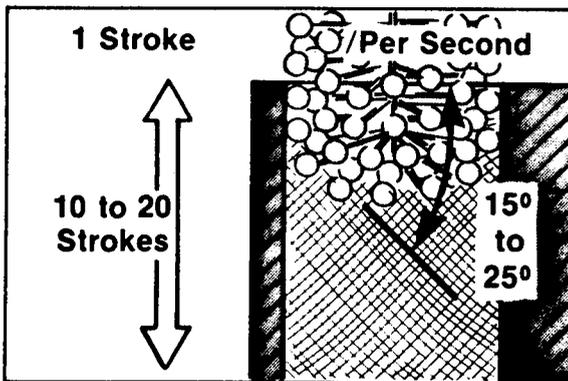

Figure 6-13
4. Vertical strokes must be smooth, continuous passes along full length of bore. Inspect bore after 10 strokes (Figure 6-13).